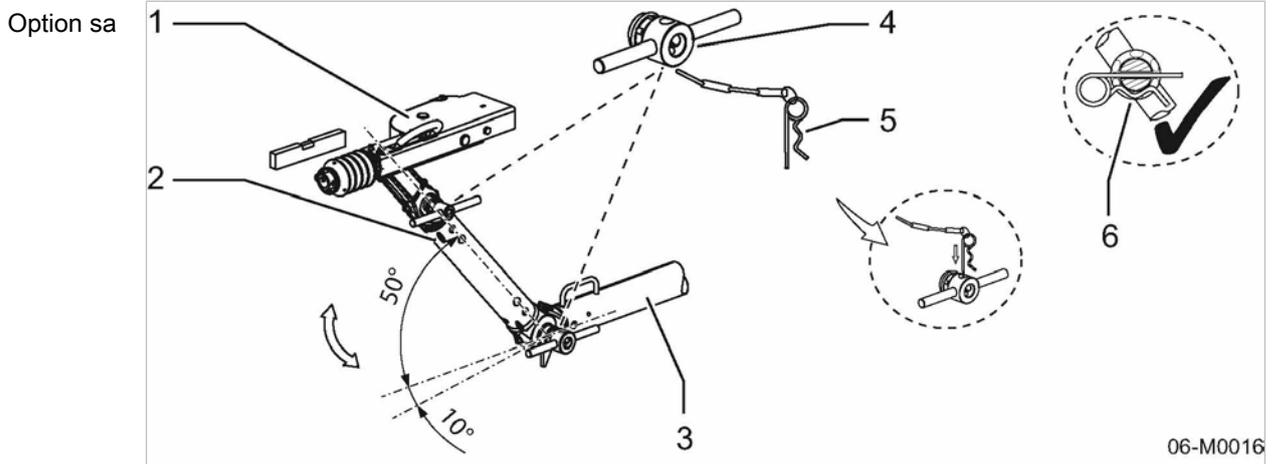

Fig. 13 Towbar height adjustment
- The split pins are correctly inserted to secure the locking lever (see item 6 in fig. 13).